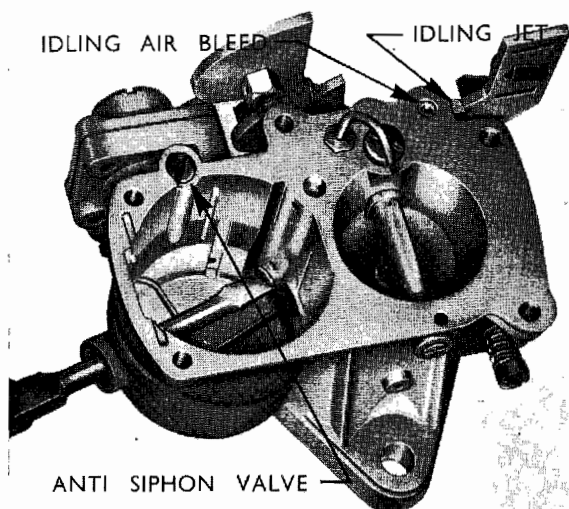

Fig. 10
11. Unscrew the bolt and flat washer giving access to the main jet and remove the jet (see Fig. 10).